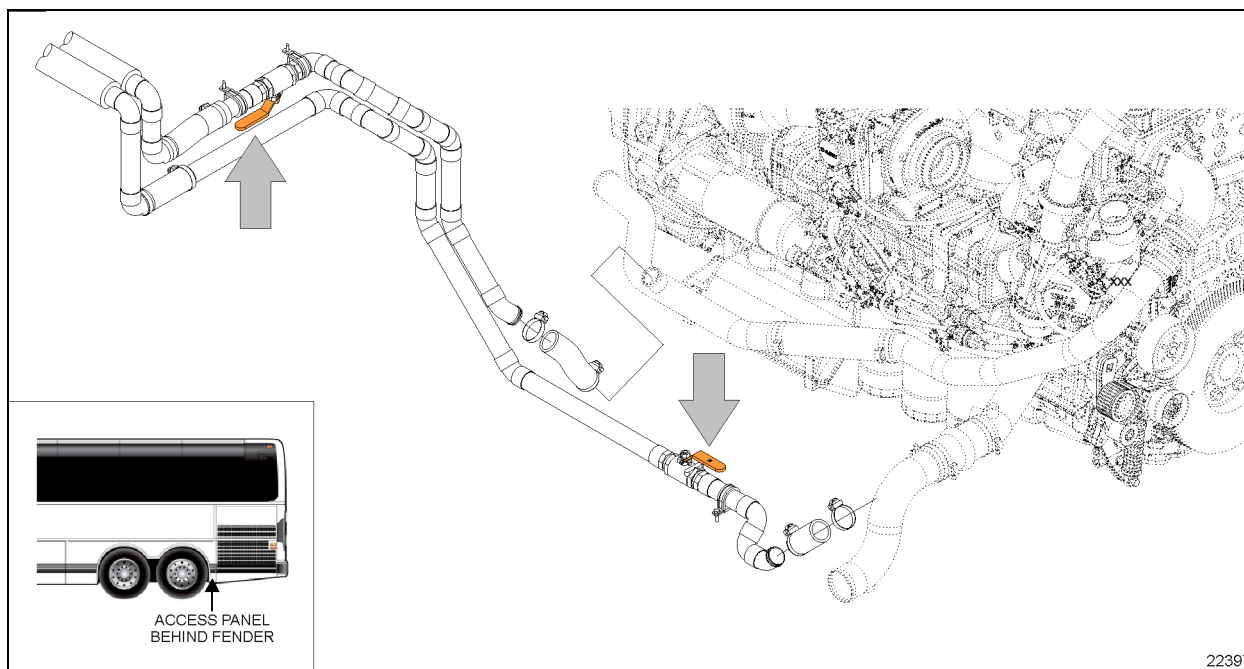
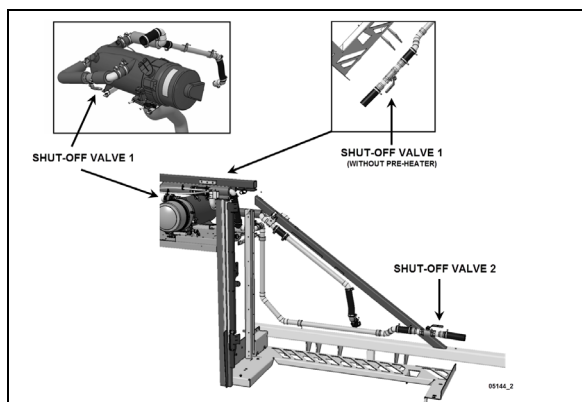

FIGURE 80 X3 SERIES HEATER LINE SHUT-OFF VALVES- (ALLISON TRANS. PIPING ARRANGEMENT SHOWN)
FIGURE 81: H3 SERIES HEATER LINE SHUTOFF VALVES 05144
3. Close the hot water lines shutoff valves located next the engine on street side (see Figure 80 or Figure 81).
2. Close both heater line shutoff valves (Figure 80 or Figure 81). One is located in the engine compartment, lower road side, near the radiator while the other one is located behind the L.H. hinged rear fender near the preheater.